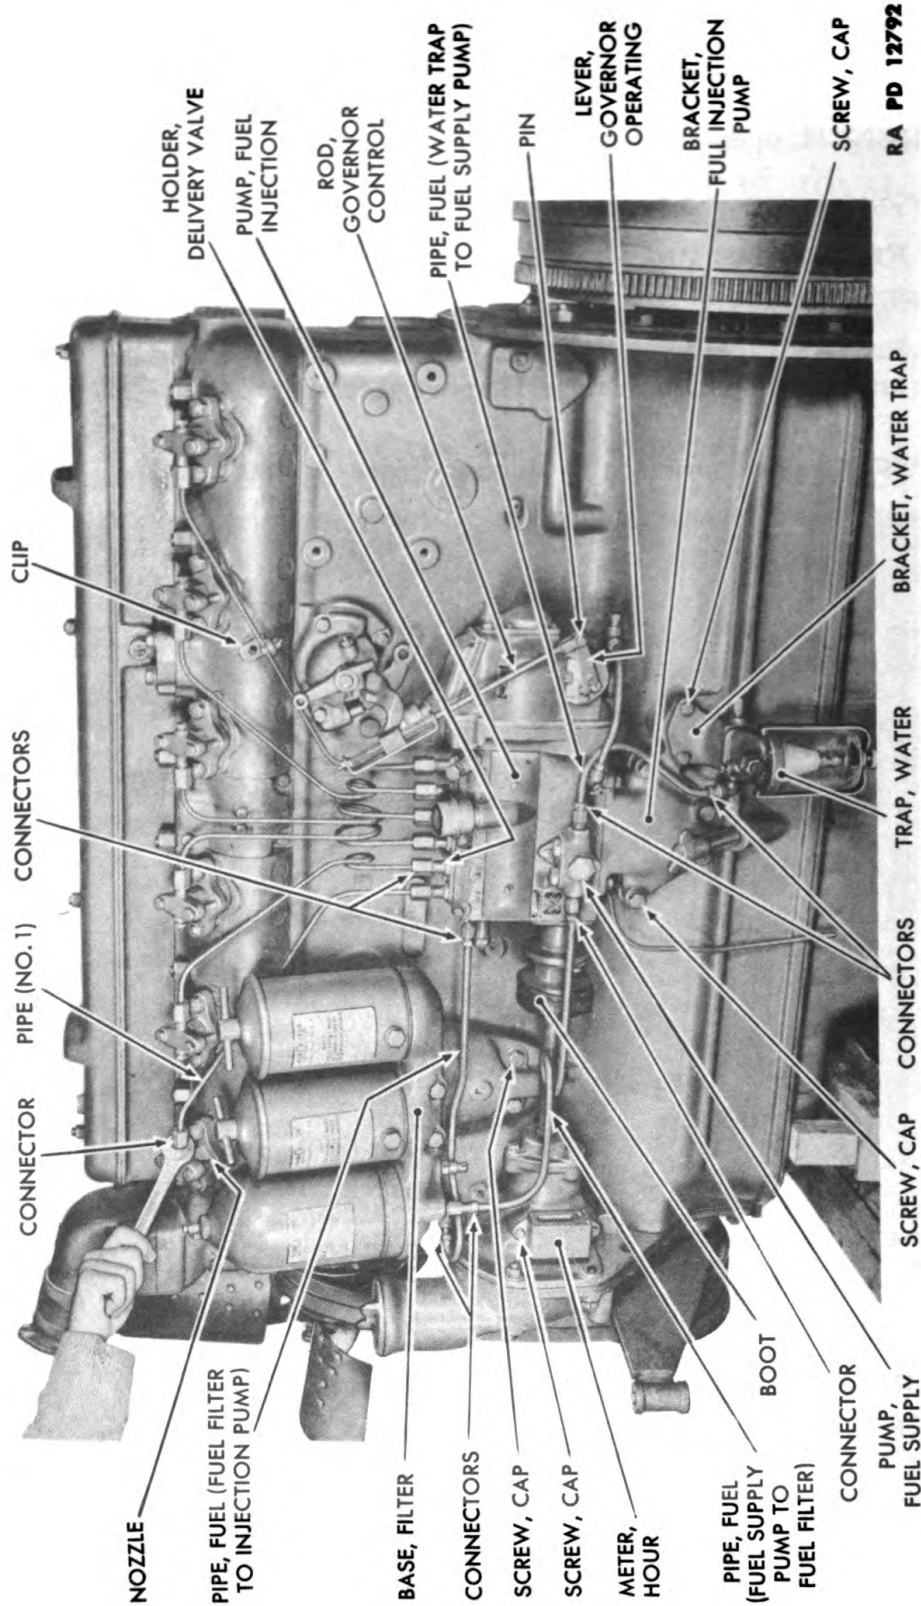

Figure 27 — Removal of Pump to Nozzle Pipes
48. FUEL INJECTION PUMP REMOVAL (fig. 27).
49. WATER TRAP REMOVAL (fig. 27).
51. HOUR METER REMOVAL (fig. 27).